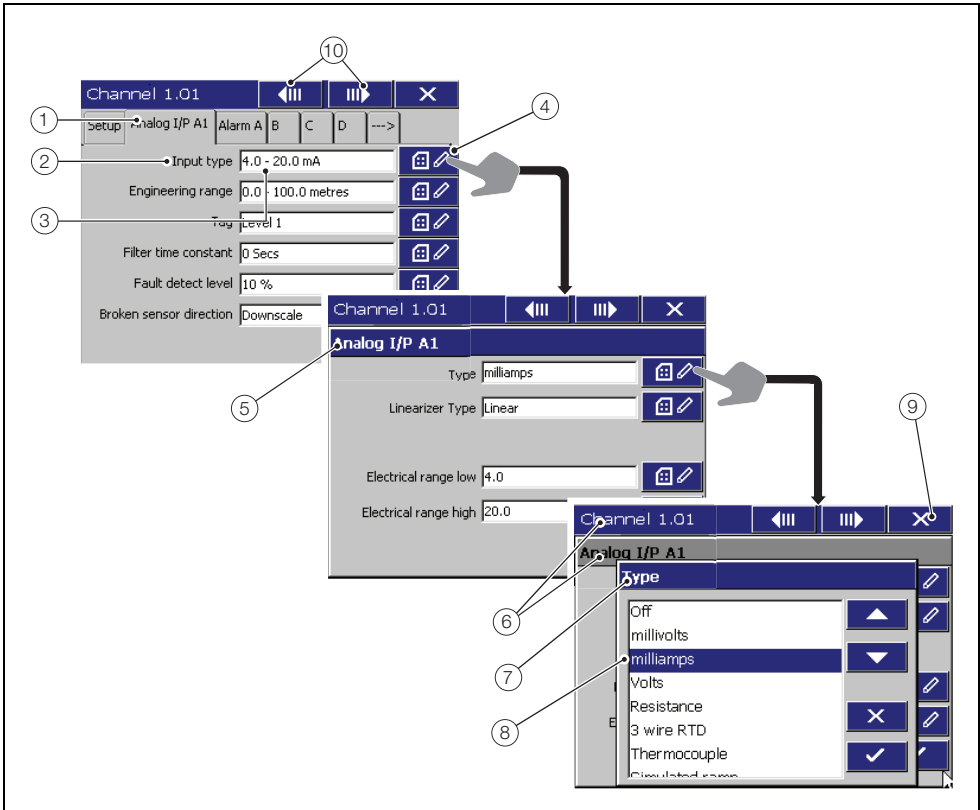

Fig. 8.5 Locating parameter settings
2. Make changes to parameters as detailed in Figs 8.5 and 8.6 (pages 66 and 67 respectively).
3. Make changes to parameters as detailed in Figs 8.5 and 8.6 (pages 66 and 67 respectively).
Referring to Fig. 8.5, parameters are located as follows: